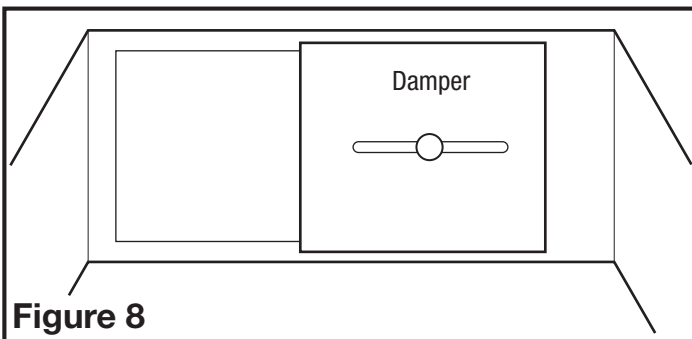

**Figure 7**
5. **6" Inline Kits:** Once the ducting has been connected to the room intake assembly, press the grill up into the previously cut hole until the spring loaded ceiling holders snap in place (**Figure 7**).